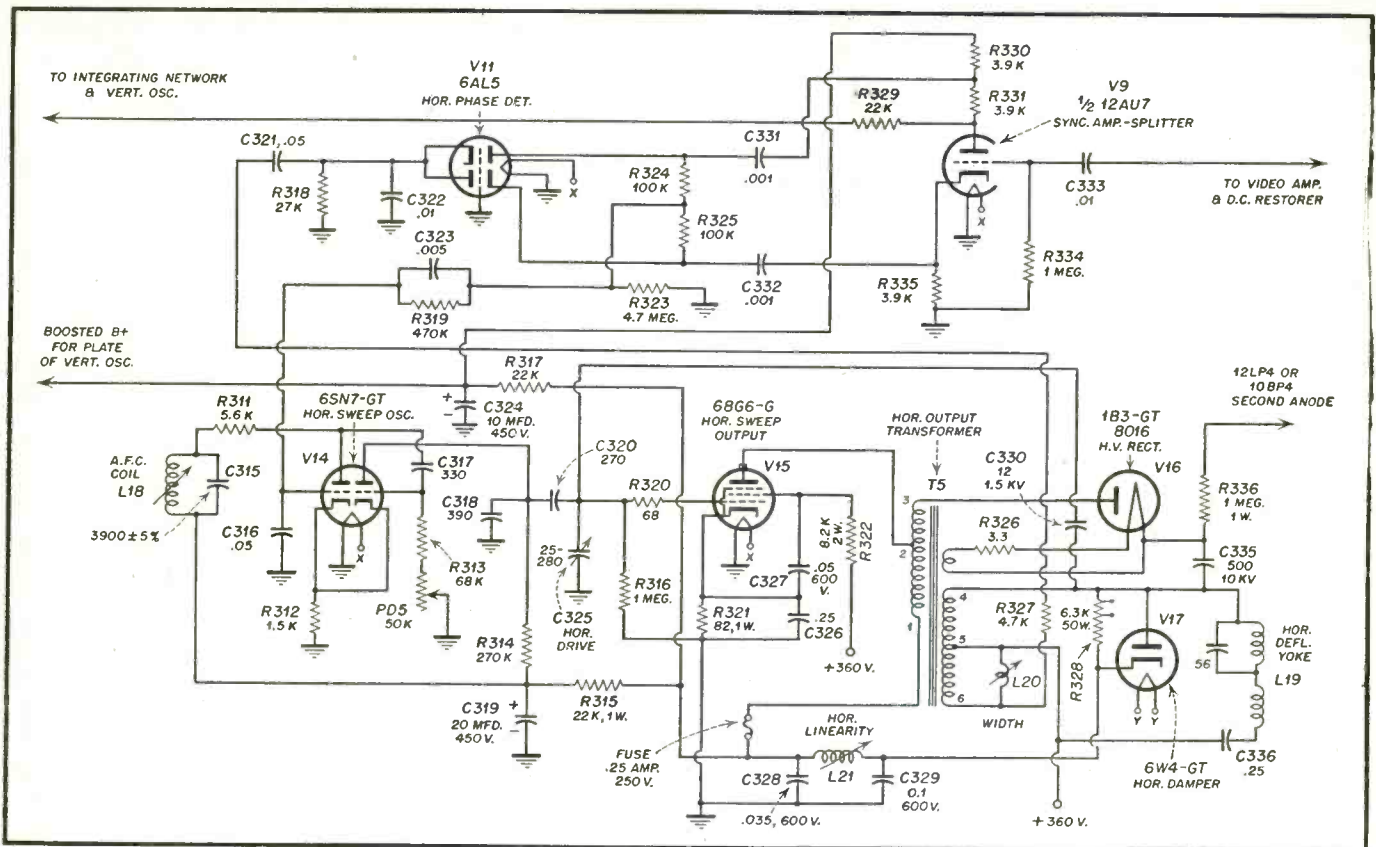

Fig. 1. Partial schematic of Tele-King Model 410 receiver.
5. The horizontal output grid shows 0 v., indicating no sawtooth input. The horizontal oscillator grid, pin 4, shows 0 v., indicating the oscillator is not operating. Voltage checks are taken around the horizontal oscillator tube socket and compared to normal readings (see Fig. 1).